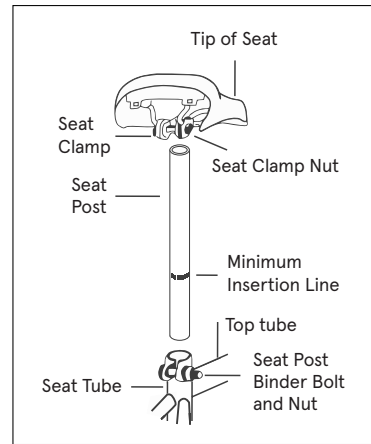

Fig. 8
Step 3: Seat Assembly (Refer to Fig. 8)